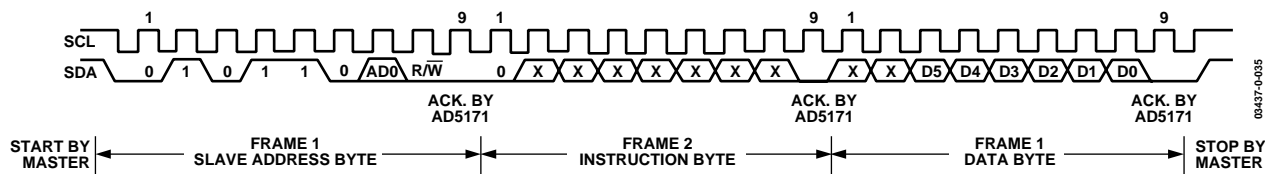
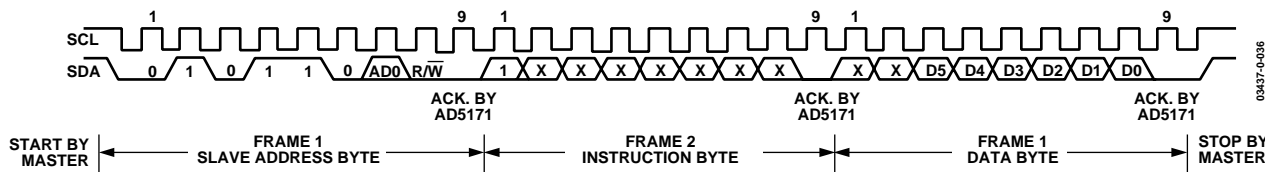
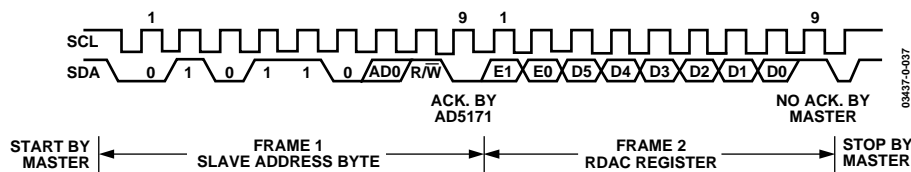
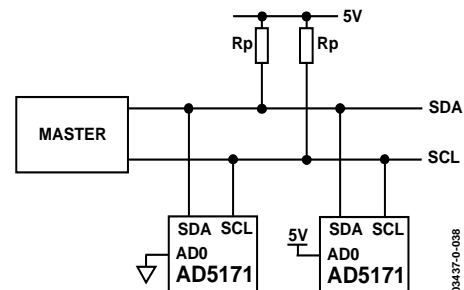

Figure 36. Writing to the RDAC Register
Figure 37. Activating One-Time Programming
Figure 38. Reading Data from RDAC Register
Figure 39. Two AD5171 Devices on One Bus
For users who prefer to use external controllers, the AD5171 can be controlled via an I²C-compatible serial bus; the part is connected to this bus as a slave device. Referring to Figure 36, Figure 37, and Figure 38, the 2-wire I²C serial bus protocol operates as follows:
1. The master initiates data transfer by establishing a start condition, which is when SDA goes from high to low while SCL is high (Figure 36 and Figure 37). The following byte is the slave address byte, which consists of the 6 MSBs as a slave address defined as 010110. The next bit is AD0, which is an I²C device address bit. Depending on the states of their AD0 bits, two AD5171s can be addressed on the same bus (Figure 39). The last LSB is the R/W bit, which determines whether data is read from, or written to, the slave device.
2. The write operation contains one instruction byte more than the read operation. The instruction byte in the write mode follows the slave address byte. The MSB of the instruction byte labeled T is the one-time programming bit. After acknowledging the instruction byte, the last byte in the write mode is the data byte. Data is transmitted over the serial bus in sequences of nine clock pulses (eight data bits followed by an Acknowledge bit). The transitions on the SDA line must occur during the low period of SCL and remain stable during the high period of SCL (Figure 36).
3. In read mode, the data byte follows immediately after the acknowledgment of the slave address byte. Data is transmitted over the serial bus in sequences of nine clock pulses (note the slight difference from the write mode; there are eight data bits followed by a No Acknowledge bit). Similarly, the transitions on the SDA line must occur during the low period of SCL and remain stable during the high period of SCL (Figure 38).
4. When all data bits have been read or written, a stop condition is established by the master. A stop condition is defined as a low-to-high transition on the SDA line while SCL is high. In the write mode, the master pulls the SDA line high during the 10th clock pulse to establish a stop condition (Figure 36 and Figure 37). In the read mode, the master issues a No Acknowledge for the 9th clock pulse, i.e., the SDA line remains high. The master then brings the SDA line low before the 10th clock pulse, which goes high to establish a stop condition (Figure 38).
Figure 39 shows two AD5171 devices on the same serial bus. Each has a different slave address since the state of each AD0 pin is different. This allows each device to be independently operated. The master device output bus line drivers are open-drain pull-downs in a fully I²C-compatible interface.